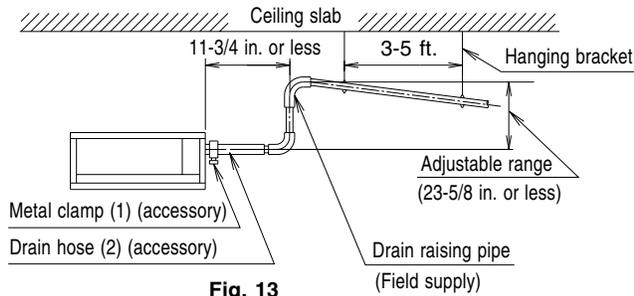

Fig. 13
- Place the drain raising pipe vertically and make sure it is no further than 11-3/4 in. from the unit. (**Refer to Fig. 13**)